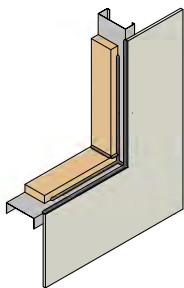

Figure 8
1. Apply a bead of MasterSeal AWB 900 in each corner of the rough opening. (See Figure 8 or 12).